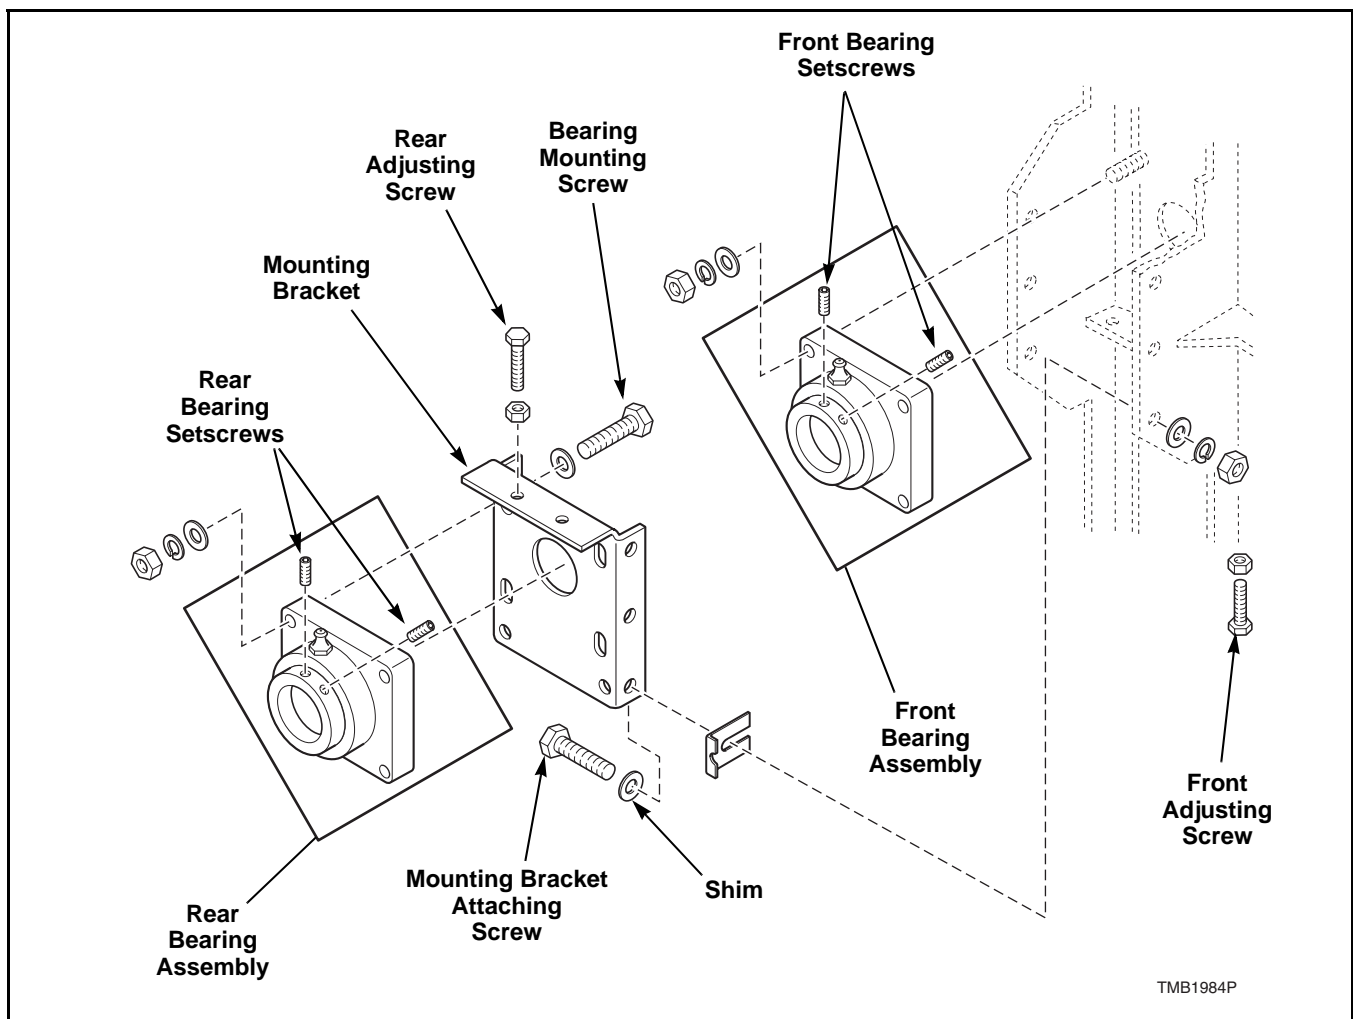

Figure 17
- Loosen setscrews on trunnion bearings. Refer to *Figure 17*.
Refer to *Figure 17*.